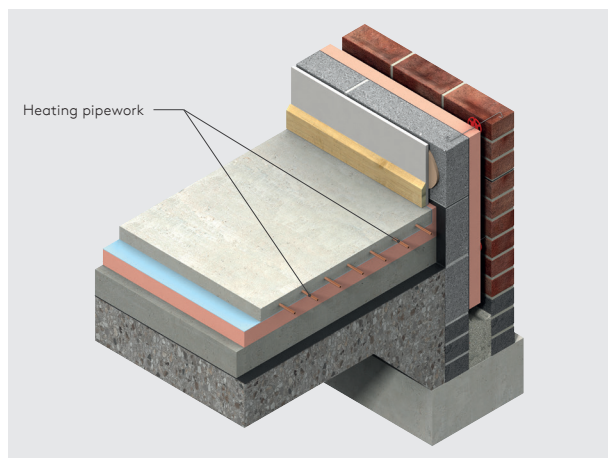
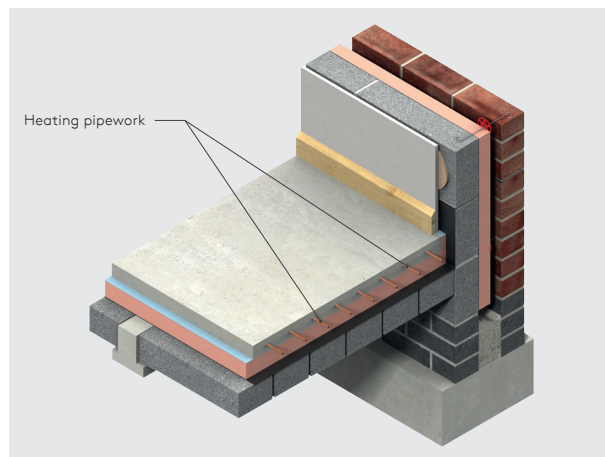

Figure 9: Intermittent heating applications - below the floor screed
Figure 10: Intermittent heating applications - beam and block floor
- In order to minimise cold bridging at the edge of the floor, the distance between the top surface of the floor insulation or perimeter insulation upstand, and the bottom of the wall insulation must be a minimum of 150 mm (see Figures 1 & 2) for a concrete floor and 200 mm for a suspended timber floor (see Figure 9). The further down the wall insulation extends past the floor insulation, the better the thermal performance of the junction between the wall and the floor.
For intermittent heating applications, where a fast response time is required, it is beneficial to have less thermal mass available to take up heat from the system and so placing the insulation layer below the screed but above the concrete slab (Figure 9) or beam and block floor (Figure 10) is the best solution.